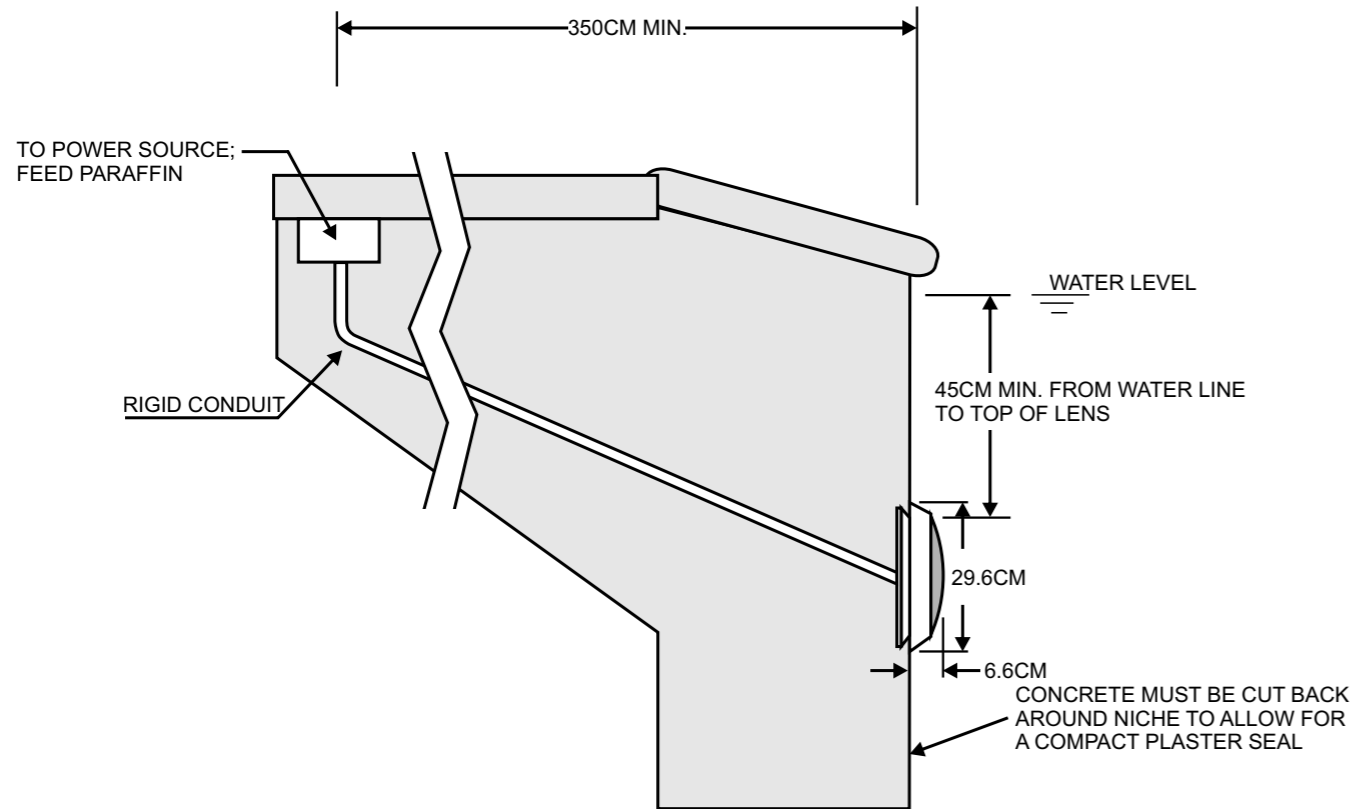

Figure 1.
A. Preparatory steps which must be completed by the electrician before light is installed, see Figure 1.
- a. The junction box, or the low voltage transformer for 12 volt Underwater Light model is to be located at least 350cm from the edge of the pool, see Figure 1.
- e. The mounting bracket must be properly installed so that the top edge of the Underwater Light lens is at least 45cm below the surface of the water in the pool, see Figure 1.
1. Locate position on a vertical wall where light is to be installed. The top of the light lens must be 45cm below normal water level, and maximum depth for luminaire is 2.5m, see Figure 1.